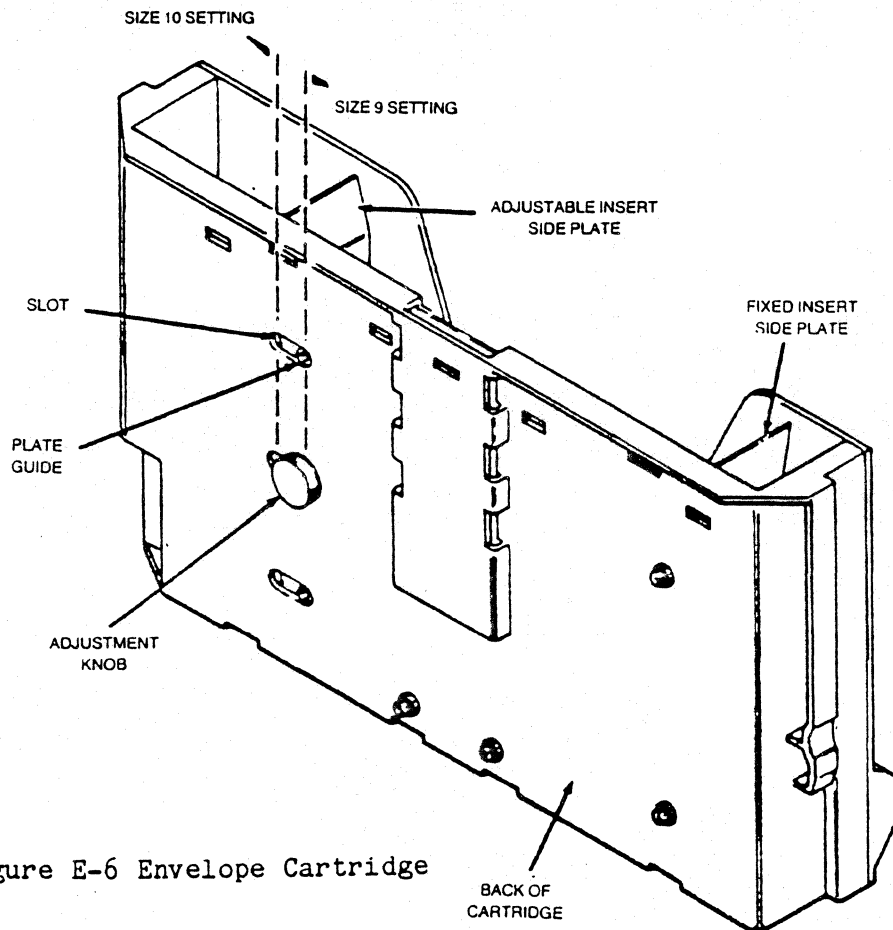

Figure E-6 Envelope Cartridge
1. Loosen the adjustment knob at the back of the cartridge(See Figure E-6.
Look at the back of your feeder to determine if it has an adjustment wheel like that shown in Figure E-6. If the wheel is present, perform steps 1 and 2 below. If your feeder does not have the wheel, skip to steps 3 through 7 below.